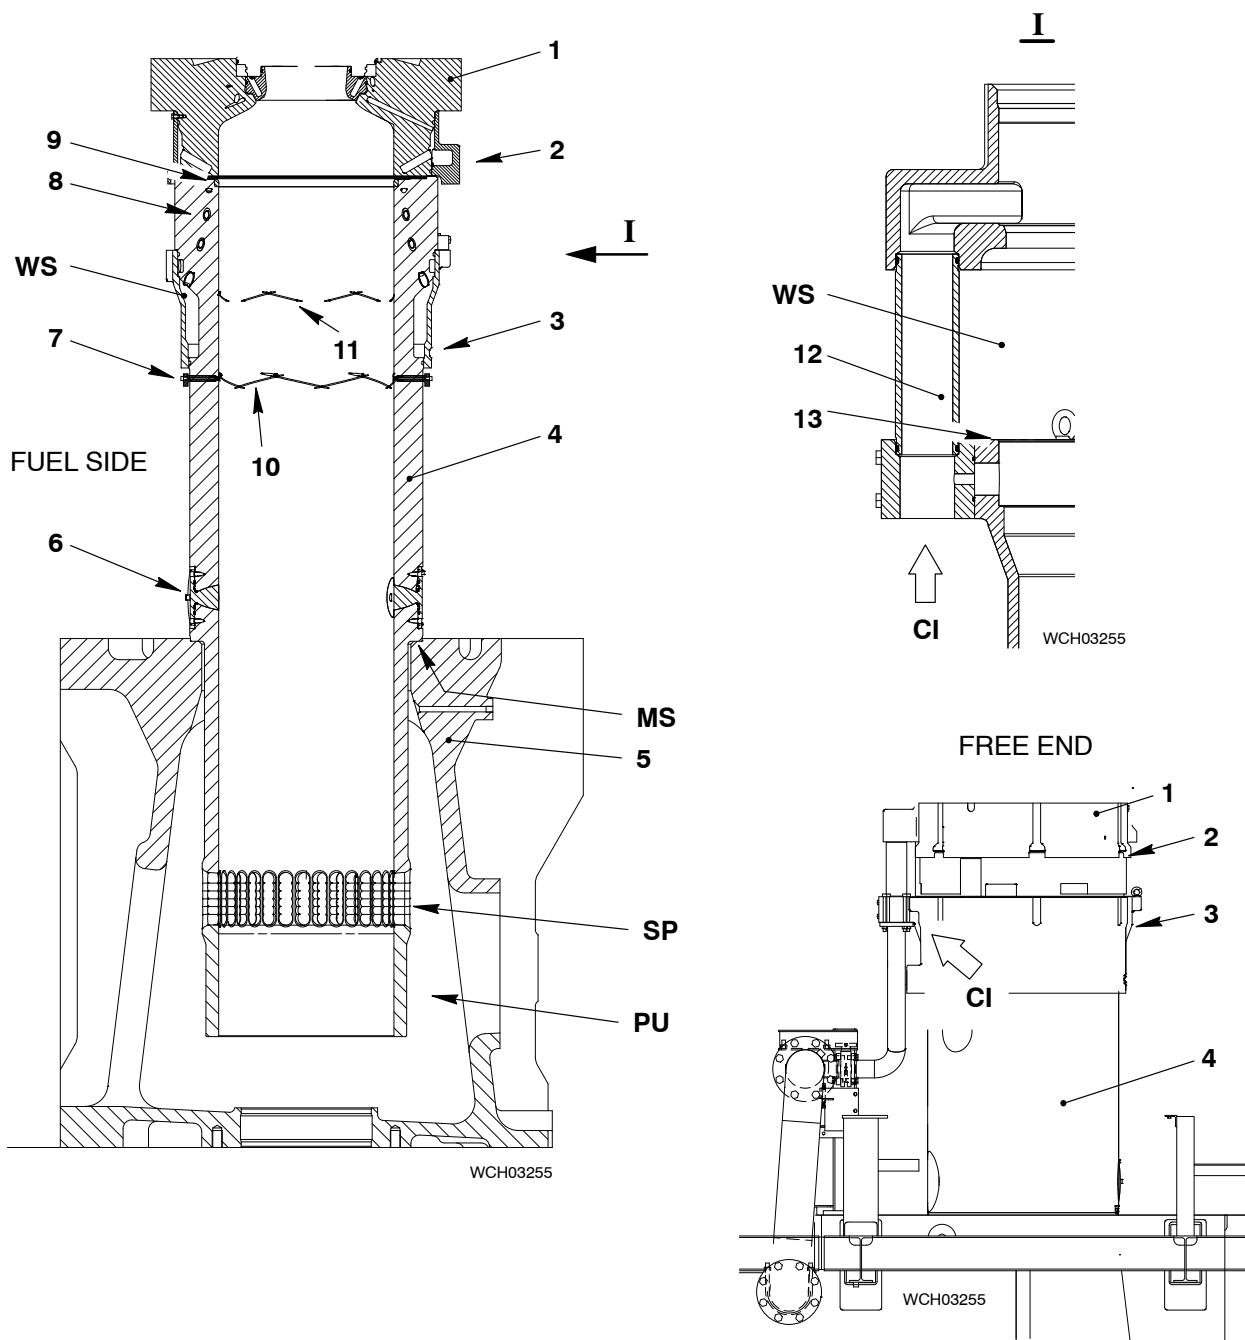

Fig. 1: Cylinder Liner and Cooling Water Inlet
The O-rings (13, Fig.1) are used to seal the water space (WS). If water leaks you must replace the O-rings as soon as possible (refer to the Maintenance Manual 2124-2).